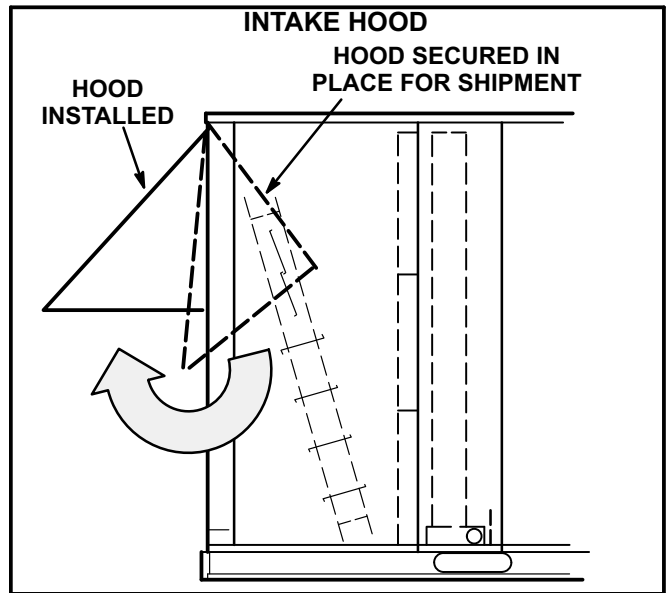

FIGURE 12
- 2- Pivot hood as shown in figure 12 and secure sides of hood to unit mullions with two sheet metal screws on each side.
- 3- Lift (rotate) the bottom of the hood top panel and attach left side to hood top panel. See figure 12.